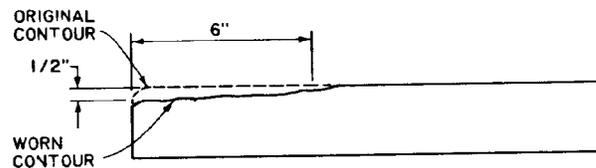

Figure 8-3. Switch point contour.
- (1) Switch difficult to operate.
- (2) Gap greater than  $\frac{1}{8}$  (0.125) inch between the switch point and the stock rail. Checked with points in both positions. (See para 8-3b.)
(3) Worn or chipped switch points. (See para 8-3c and fig 8-3.)
(1) If the switch can be thrown and locked in either direction with a  $\frac{1}{8}$  (0.125) inch spacer between the switch point and the stock rail, operations through the turnout shall not exceed 10 mph.
(2) If the switch can be thrown and locked in either direction with a  $\frac{1}{4}$  (0.25) inch spacer between the switch point and the stock rail, operations through that side of the turnout shall not be permitted.
*c. Switch points.* A switch point shall be restored or replaced if the point is chipped, broken, or worn more than  $\frac{1}{2}$  (0.50) inch down and 6 inches back from the point. (See fig 8-3). Metal flow shall be removed to ensure proper closure. If a switch point is worn or damaged beyond these limits, operations through the turnout shall not exceed 10 mph.